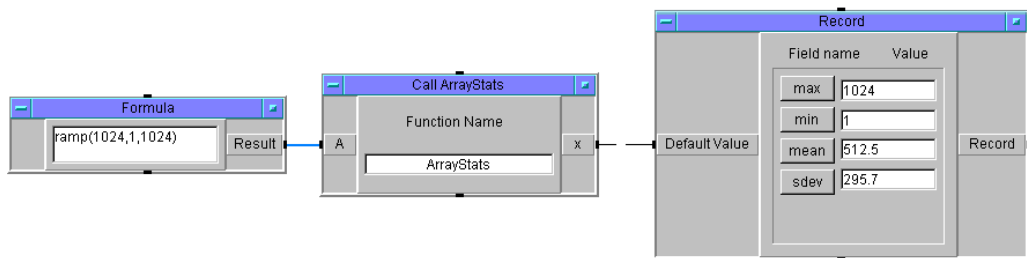

Figure 8-5. After Editing ArrayStats Output to a Record
8. Run the program. It should look like Figure 8-5.